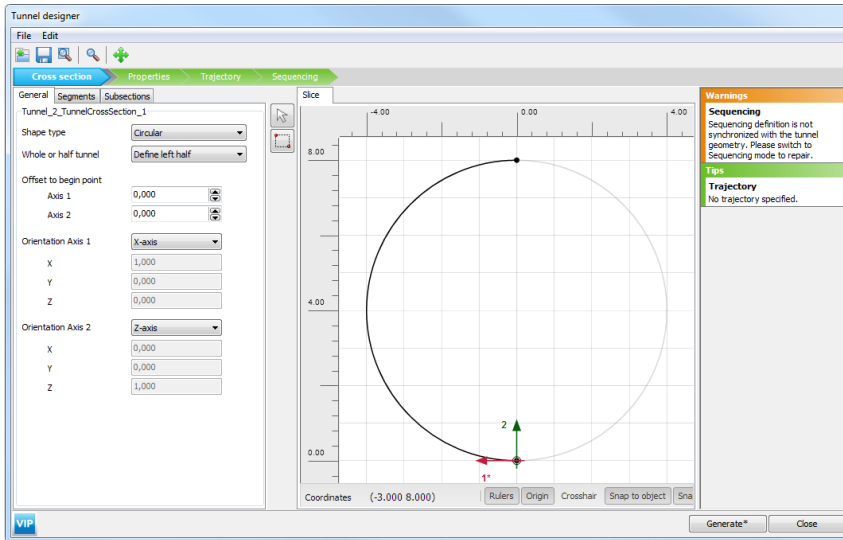

Figure 5.4 General tabsheet of the Tunnel designer
- The left half of the tunnel is generated in this example. Select the *Define left half* option in the drop-down menu for the *Whole or half tunnel*. A screenshot of the *General* tabsheet after the proper assignment is given in Figure 5.4.